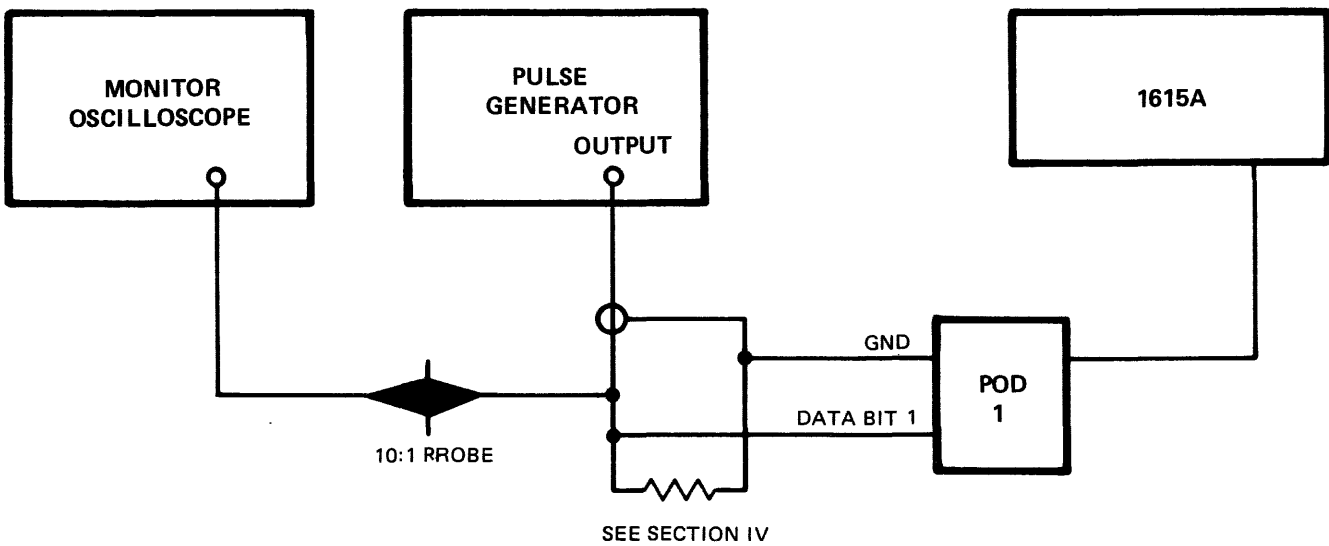

Figure 5-4. Filter Width Adjustment Test Setup
- e. Connect instruments according to test setup in figure 5-4.